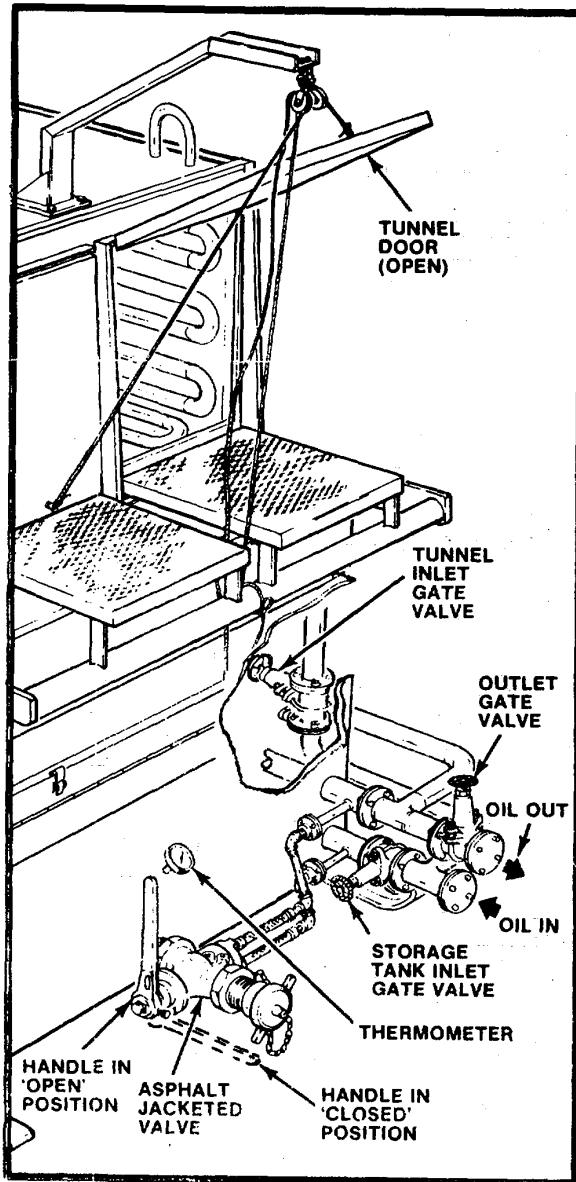

Figure 3-1. Controls and Instruments
l. Connect the heat transfer piping to the heat source at the 2-2 inch reducer coupling on the ends of connector pipes (7, Figure 6-2). Insure that the flow of heat transfer oil is as indicated on figure 3-1.
b. Thermometer. The asphalt material temperature gauge (Figure 3-1) is a direct, gauge reading, bi-metal thermometer for monitoring the temperature of the melted asphalt material in the storage tank. For most efficient transfer of asphalt material, temperature should be maintained at approximately 235° F. For 85-100 penetration asphalt cement.
c. Tunnel Inlet Gate Valve. The tunnel inlet gate valve (Figure 3-1), located at the right side of the melter, is an all iron, rising stem gate valve, with a forged steel disc. This valve is used to regulate the flow of heat transfer oil to the heat coils of the de-drumming tunnel. During de-drumming operations, this valve is normally in the full open position. When de-drumming has been completed, this valve is closed, directing all heat transfer oil to the heat coils in the bottom of the storage tank.
d. Storage Tank Inlet Gate Valve. The storage tank inlet gate valve (Figure 3-1), located on the lower piping connection to the storage tank, is identical in construction to the tunnel inlet gate valve. This valve regulates the flow of heat transfer oil to the heating coils in the storage tank. During de-drumming operations, this valve must be used in conjunction with the tunnel inlet gate valve to divide the flow of heat transfer oil between the tunnel and the storage tank. When de-drumming this valve must be partially closed to divert most of the heat transfer oil flow to the tunnel coils, but must not be completely closed. Melted asphalt cement that is allowed to drop onto cool or cold coils in the storage tank will quickly solidify, resulting in the loss of time and additional consumption of energy to remelt the asphalt. After de-drumming operations are completed, this valve may be fully opened.
e. Outlet Gate Valve. The outlet gate valve (Figure 3-1), located on the upper piping connection to the storage tank, is identical in construction to the tunnel inlet gate valve. This valve is used to throttle the flow of heat transfer oil through the melter, providing control of the temperature. Opening, of this valve, fully will tend to raise the temperature; while partial closing of this valve will restrict the flow and tend to lower the temperature.
f. Asphalt Jacketed Valve. The asphalt jacketed valve (Figure 3-1) is a plug type, rotary valve, with a cored jacket for the flow of heat transfer oil to heat the valve assembly. The valve stem and collar provide positive stops in the full open and full closed position. For valve installation shown, the valve is fully open when lever is straight up and fully closed when lever is horizontal, pointing away from the storage tank.
- d. Periodically monitor the thermometer (Figure 3-1) for proper operating temperature range, $235^{\circ} \pm 150^{\circ}$ F. for asphalt cement rated at 85-100 penetration. Temperature of asphalt cement in storage tank may be lowered by adjustment of heat transfer oil gate valves to restrict flow of hot oil to coils of storage tank. Do not restrict oil flow to tunnel during de-drumming operations, maximum heat is desired to shorten melt-down of asphalt cement.
- e. To transfer melted asphalt cement from storage tank, start supplied material pump and open asphalt jacketed valve (Figure 3-1). Meter the flow of asphalt pumped from storage tank, so a record can be maintained of the amount of material in the tank at all times.
- f. When required amount of asphalt cement has been melted, heat in the tunnel coils is no longer required. Push empty drums from tunnel and close the tunnel inlet gate valve (Figure 3-1). Adjust storage tank inlet gate valve and outlet gate valve (Figure 3-1) as necessary to maintain proper temperature of asphalt cement in storage tank.
- b. When satisfied that all material has been pumped from storage tank, close the asphalt jacketed valve (Figure 3-1).
- e. Close all gate valves (Figure 3-1).